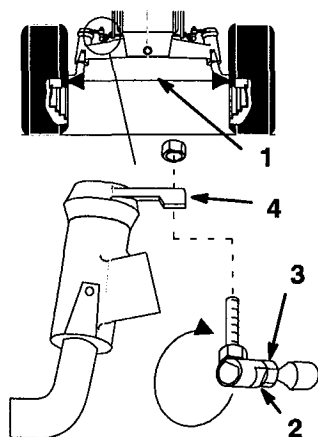

Figure 27
Maintain toe-in of the front wheels as specified. If uneven tire wear, lawn scuffing or hard steering develop adjustment may be required. Check the toe-in after every 100 operating hours or yearly, whichever occurs first (Fig. 27).
3. Measure, between the rims, at spindle level, in the front and rear of the wheels (Fig. 27).
2. Remove ball joint from one steering lever (Fig. 27).
4. Hold flats on ball joint to align with flats on tie rod and tighten jam nut (Fig. 27).